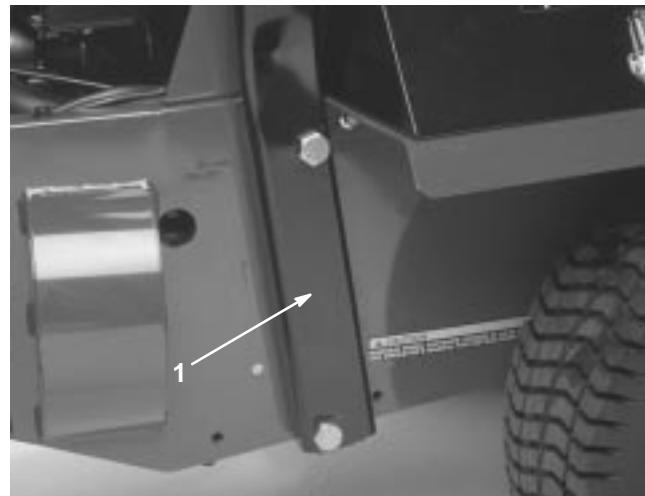

Figure 15
1. Lower roll bar onto frame, aligning mounting holes as shown in Figure 15.
2. Secure roll bar to frame with 4 bolts (3/4 x 3-1/2 in.), lock washers, and nuts (Fig. 15). Tighten securely.